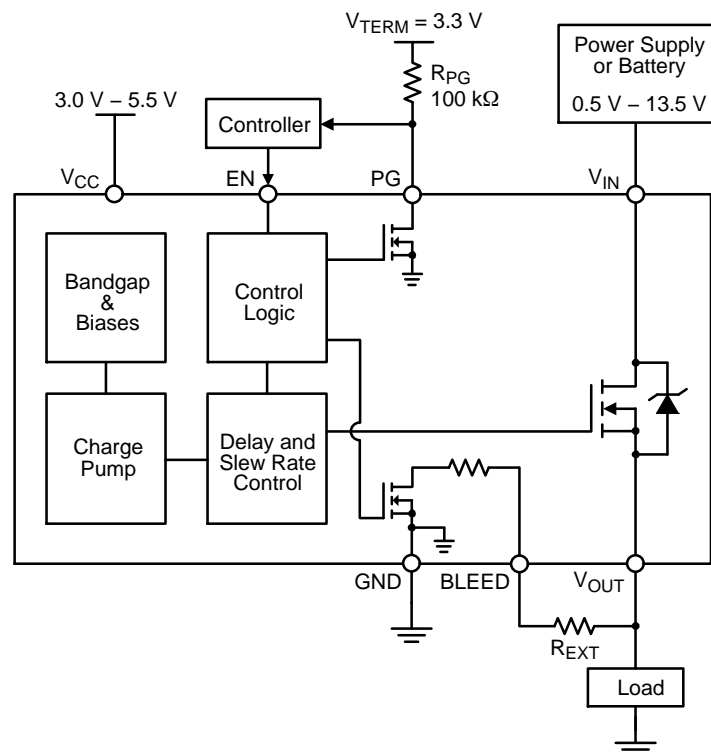
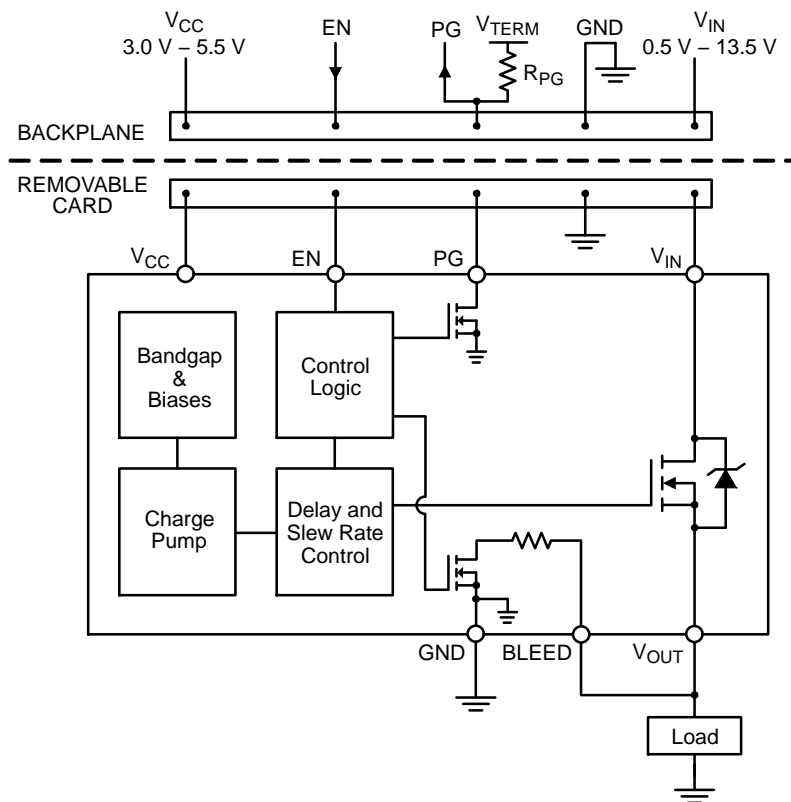

Figure 27. NCP45524 Typical Application Diagram – Load Switch
Figure 28. NCP45524 Typical Application Diagram – Hot Swap
Is it required that the BLEED pin be connected to V_{OUT} either directly (as shown in Figures 28 and 31) or through an external resistor, R_{EXT} (as shown in Figures 27 and 30). R_{EXT} should not exceed 100 M Ω and can be used to increase the total bleed resistance and decrease the load bleed rate.
The NCP45524 devices have a power good output (PG) that can be used to indicate when the gate of the MOSFET is fully charged. The PG pin is an active-high, open-drain output that requires an external pull up resistor, R_{PG} , greater than or equal to 1 k Ω to an external voltage source, V_{TERM} , that is compatible with input levels of all devices connected to this pin (as shown in Figures 27 and 28).